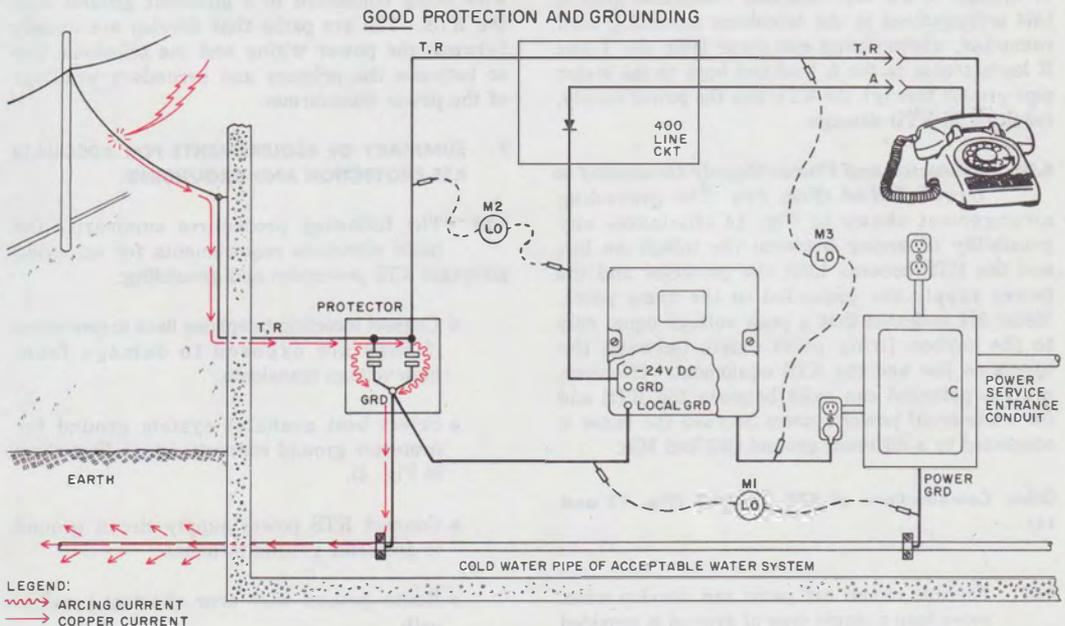
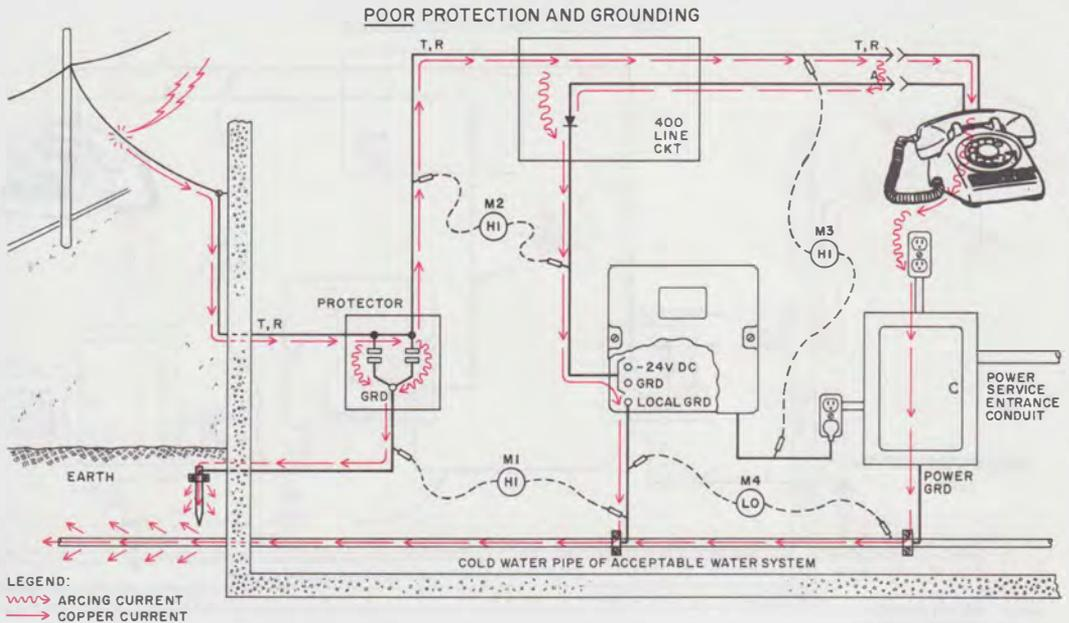

Fig. 12—All Grounds Bonded to Cold Water Pipe
Fig. 13—Protector Ground Bonded to Ground Rod and KTS Power Supply and AC Power Grounds Bonded to Cold Water Pipe
5. OPERATION OF A GOOD PROTECTION SYSTEM (Fig. 12)
5.02 Fig. 12 shows a typical lightning surge entry into a telephone line associated with a properly protected KTS. The red arrows show the directions in which current can flow from the entry point to earth ground. The path toward the CO is usually high impedance due to the cable length involved, and only a relatively small current flows in that direction. High-current levels do flow, however, toward the telephone station since the impedance is significantly lower. The current flows through the drop wire and across the carbon block air gaps (as described in 3.02) to the water pipe. The current flow continues through the pipe system until the energy is finally dissipated into the earth.
Protector Grounded to Ground Rod (Fig. 13)
6.01 Fig. 13 illustrates an installation similar to the one shown in Fig. 12, except a ground
6.02 As was the case in Fig. 12, the protector blocks will operate and surge currents will flow toward earth ground by way of the protector ground. However, because the current must flow through the ground wire and ground rod, a high-voltage difference (possibly several kilovolts) can develop between the protector ground terminal and the water pipe system (meter M1). Since the line side of the protector is at approximately the same potential as the ground side while the carbon blocks are conducting, the telephone line potential (M2) above the power supply local ground (which is connected to the water pipe ground) will be almost the same as that indicated by M1. Meter M3 shows that the same potential difference also exists between the telephone line and the commercial power leads.
6.03 The red arrows show how current can flow toward the water pipe ground if sufficient potential is present to arc from the telephone line to another circuit path. For example, an arc can develop between the telephone leads and the power supply leads on a 400D KTU printed wiring board at about 2 kilovolts. Therefore, in the case illustrated by Fig. 13, KTU component damage is most likely to occur as a result of surge current flow from the telephone line to the power supply ground (cold water pipe) through KTU components.
6.05 Fig. 13 also illustrates that an arc path can develop between the telephone set and nearby electrical outlets or other grounded systems, resulting in damage to the set. Another vulnerable area in this arrangement is the telephone mounting cord connector, where arcing can occur from the T and R leads across to the A lead and back to the water pipe ground through the KTU and the power supply, resulting in KTU damage.